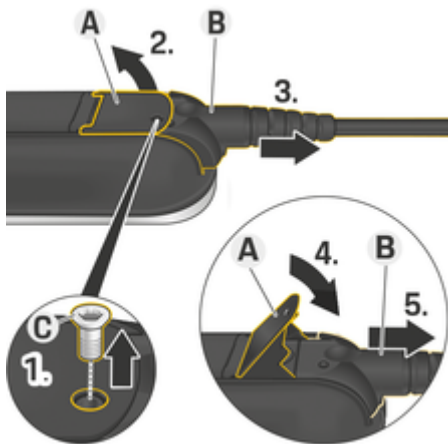

Fig. 18 Disconnecting cables
1. Remove screw **C** (Fig. 18) using a suitable tool.
2. Lift lever **A** (Fig. 18).
3. Pull out plug **B** (Fig. 18) until you first feel resistance.